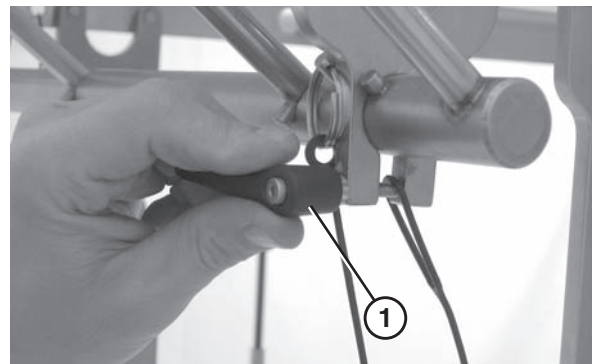

Figure 29
8. Secure the scraper by tightening the handle (Figure 29, item 1).